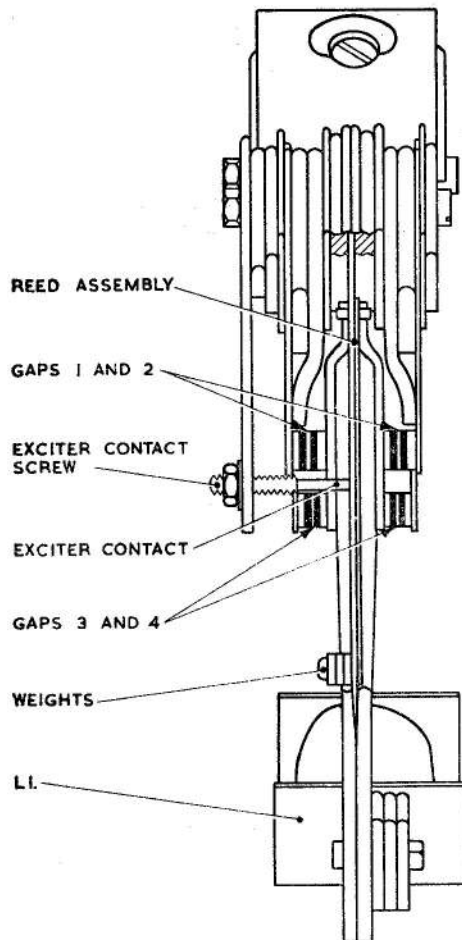

Fig. 4. Vibrator component
6. L1, which supplies the mechanical energy to operate the reeds, is actuated by a separate small pair of contacts Z1 and Z2, Z1 being mounted on an adjustable screw for servicing purposes. These contacts, which are normally closed, are opened as the reeds swing away from the stationary contact screw, and it is this interruption of current which sets the reed assembly vibrating. The frequency of vibration is determined by weights attached to the free end of the reeds (*fig. 4*).